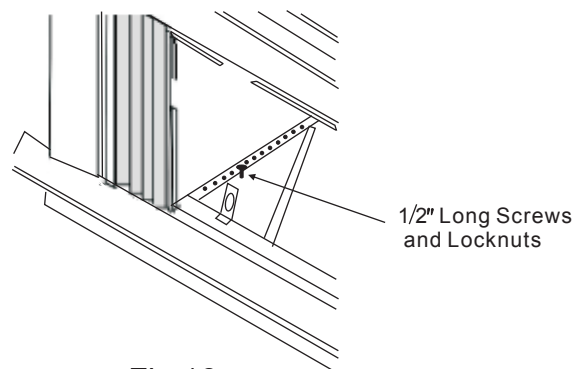

Fig.16
3. Install support brackets(with sill angle brackets attached) to correct hole in bottom of cabinet as shown in Fig.16.